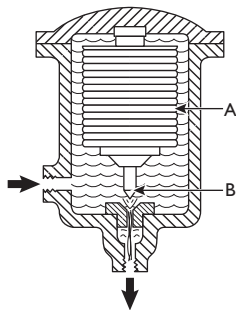

Fig. 44-3 Thermostatic trap.
A *thermostatic* trap responds to temperature changes. Hot steam causes it to open, and the cooler condensate causes it to close. Fig. 44-3 shows a typical thermostatic trap. The operating element (A) is a corrugated bellows filled with a liquid, such as alcohol and water, having a boiling point below that of water. Attached to the bottom of the bellows is a valve (B), which closes when the bellows expands. When cool condensate is flowing, the bellows is contracted and the valve is open, allowing the condensate to discharge. As the condensate temperature approaches steam temperature, the liquid inside the bellows is vaporized, causing a pressure increase inside the bellows that expands it and closes the valve.